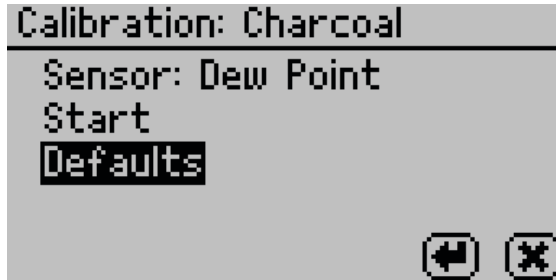

Figure 24 Default options
6. Select Defaults (Figure 24).